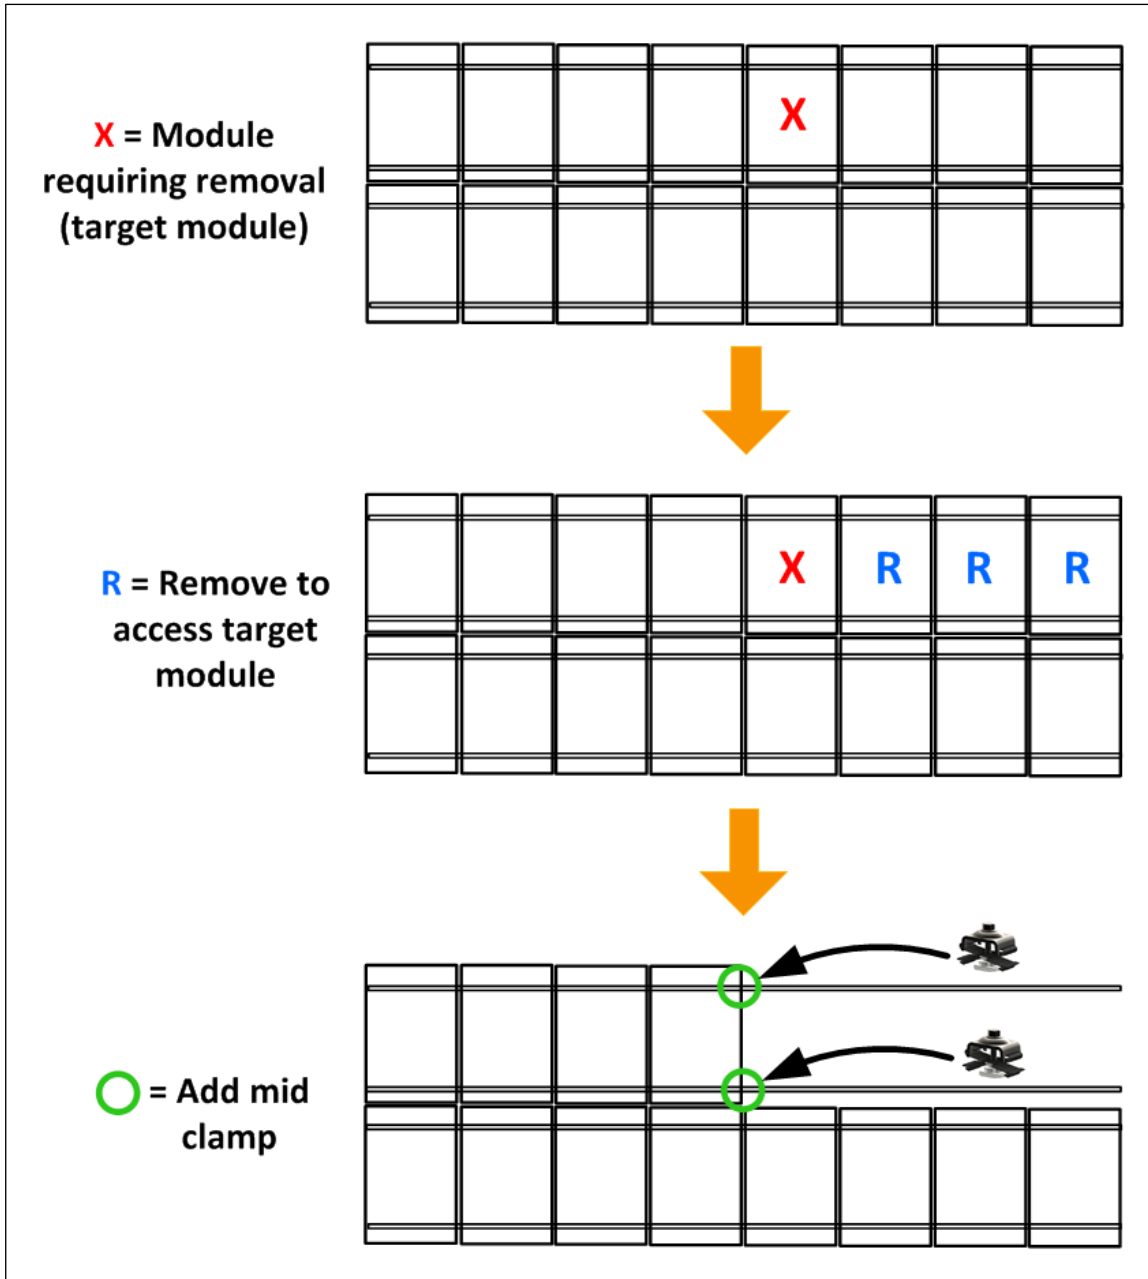
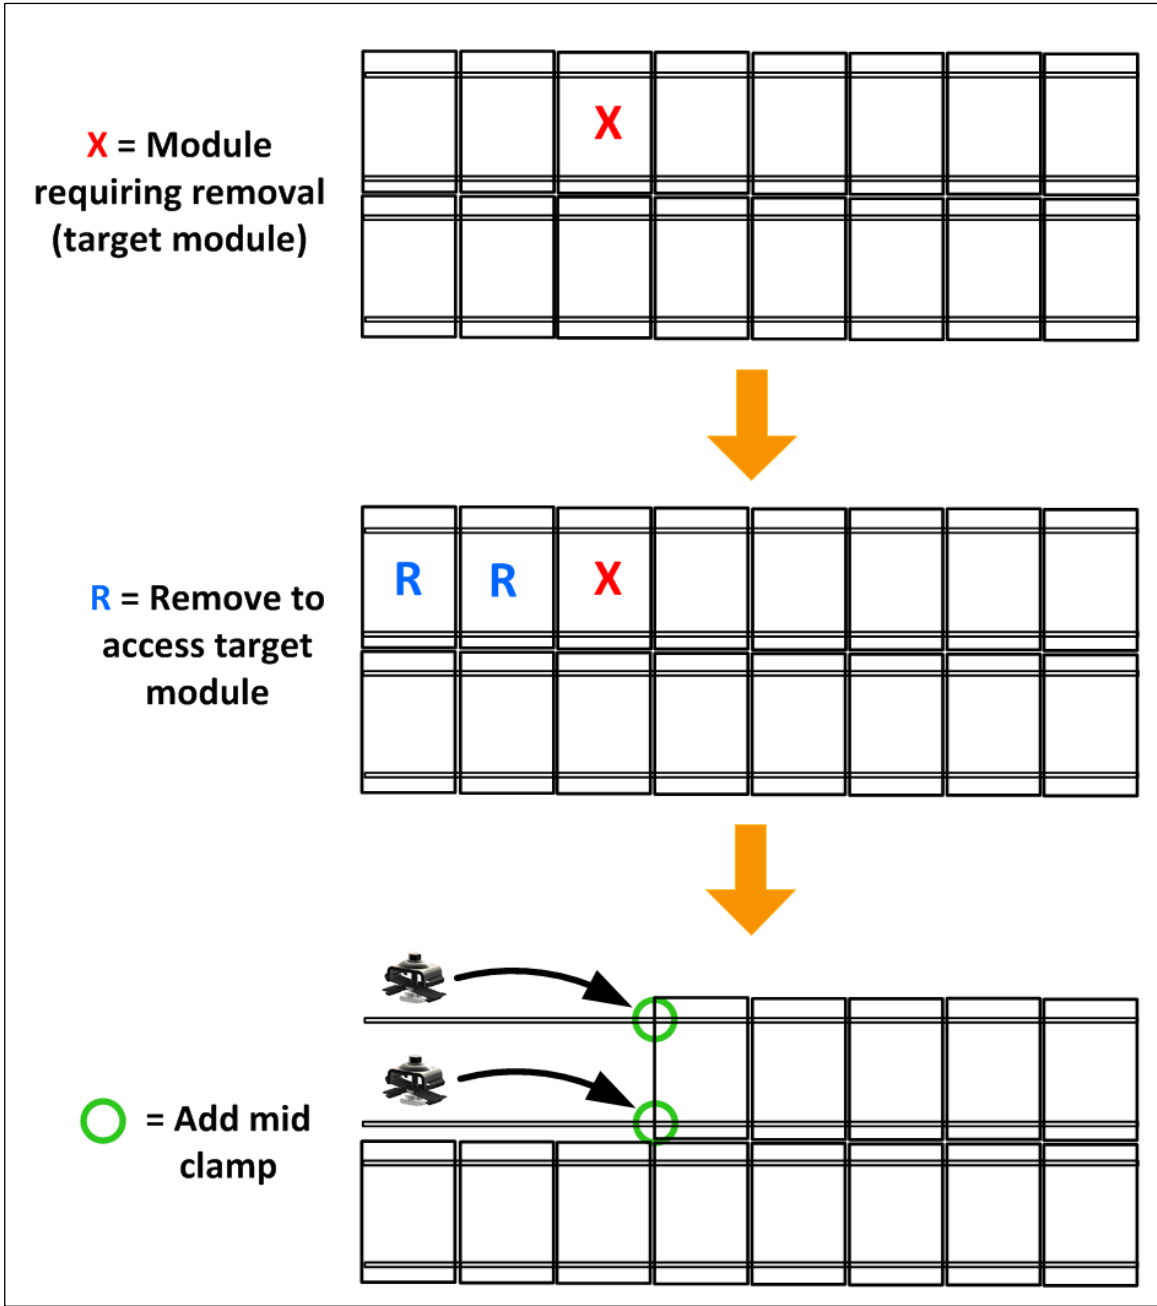
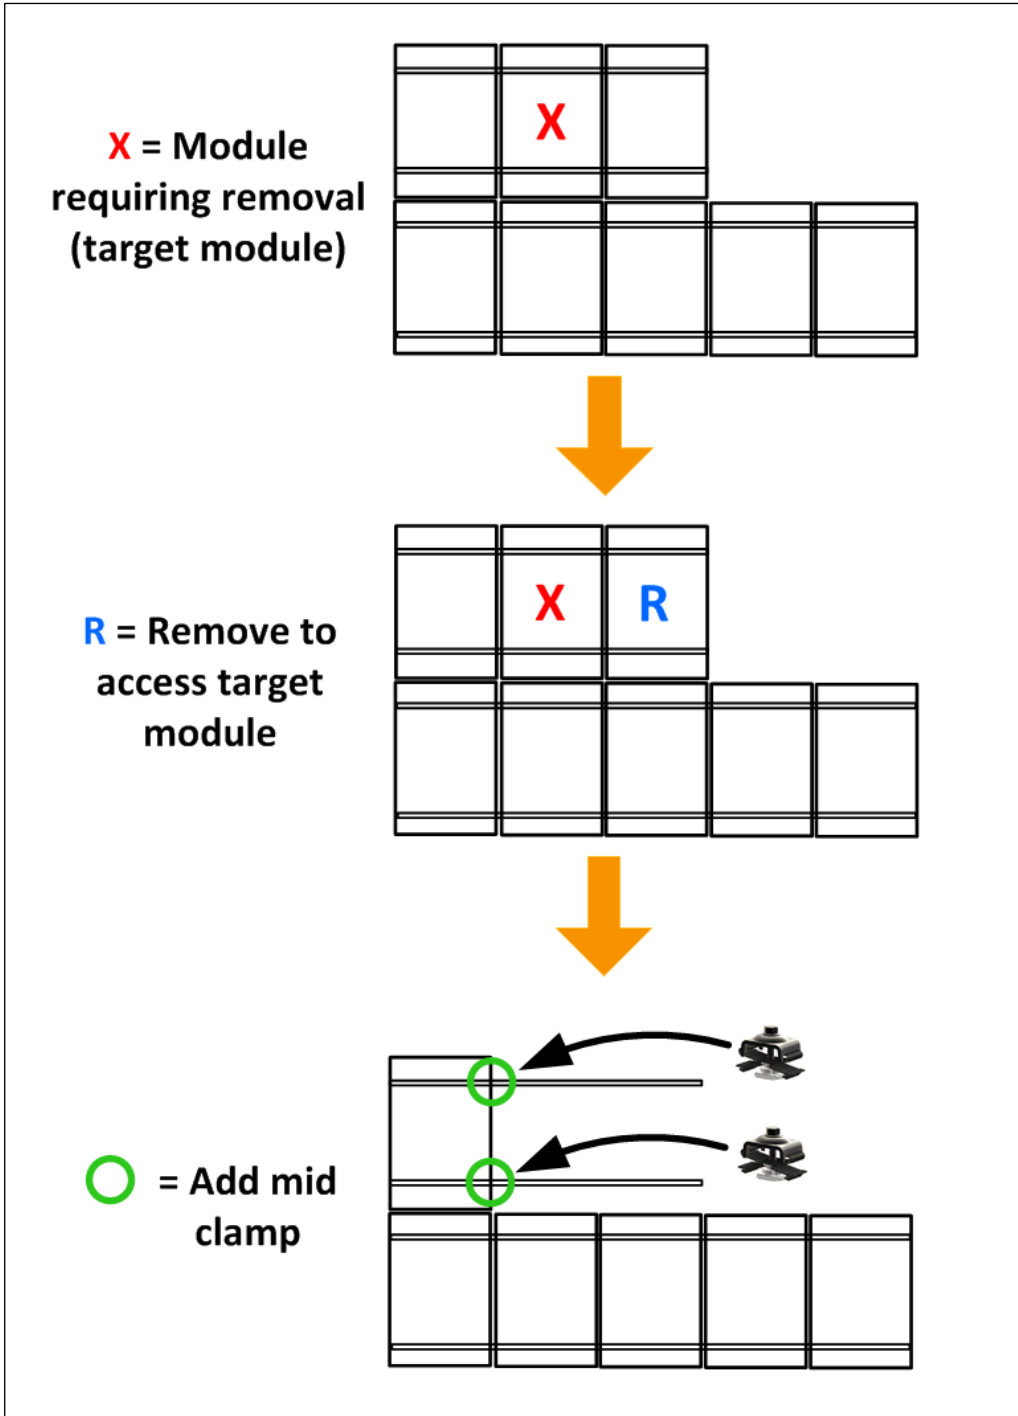

Fig. D1
Fig. D2
Fig. D3
9. Remove the adjacent modules and mid clamps, ideally from the side of the row that contains fewer modules between the target module and the end of the row (Fig. D1 and Fig. D2). If there is any other grounding or wire management hardware present, remove it as well.
- If the target module will be out of the array for an extended period, carefully attach two mid clamps to the now-exposed edge of each adjacent module (Fig. D1, Fig. D2, and Fig. D3) according to Section 5.6 of this guide (note that two of the teeth on these mid clamps will instead directly engage the top of the rail—*this is acceptable for module removal and replacement*). The mid clamps will keep the modules bonded to the rail, which is bonded to the equipment grounding conductor (EGC) and in turn the grounding electrode conductor (GEC).